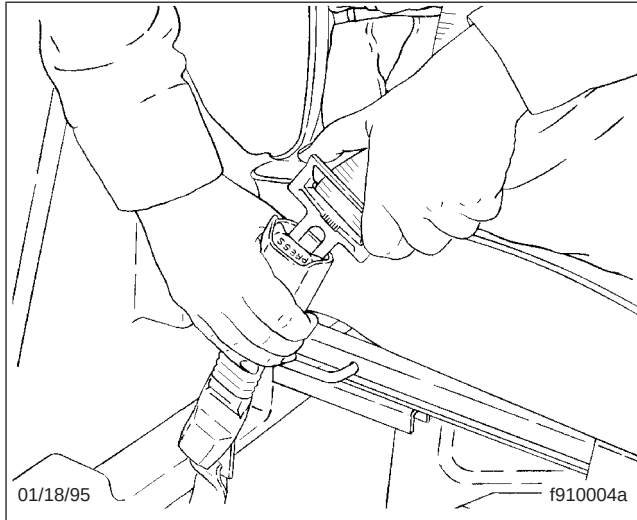

Fig. 5.6, Fastening the Three-Point Belt
2. Fasten the three-point seat belt by pushing the link into the buckle until it latches (Fig. 5.6). Give the belt a tug at the buckle. If the buckle unlatches, repeat this step. If the problem continues, replace the three-point seat belt.